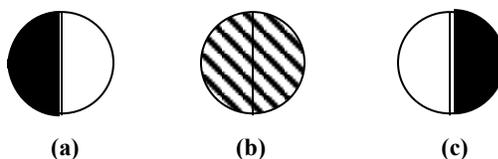

Figure 7.4. Possible views through the eyepiece of the polarimeter
5. Look through the eyepiece and adjust the Vernier scale so that the two half circles that appear are of equal brightness (see Figure 7.4).